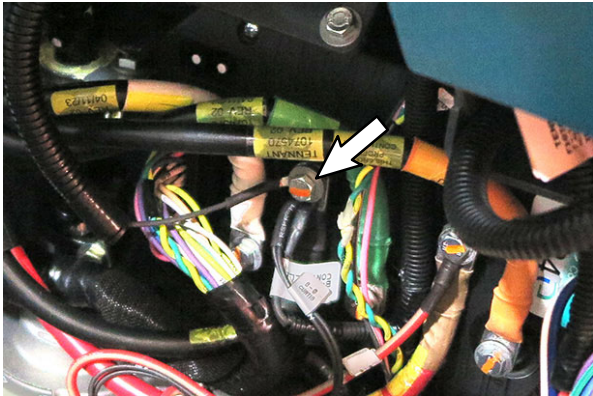
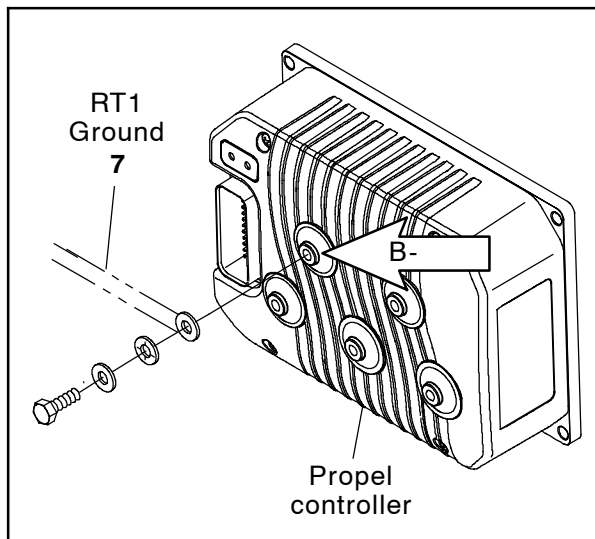

FIG. 11
FIG. 12
24. Remove the hex screw from propel controller B- terminal, place the blue spotlight harness (7) RT1 lead onto the propel controller B- terminal, and reinstall the previously removed hex nut onto the propel controller B- terminal. Torque to: 4.07 Nm - 4.52 Nm (36 in. lbs. - 40 in. lbs). (Fig. 11/Fig. 12). (Fig. 11/Fig. 12)